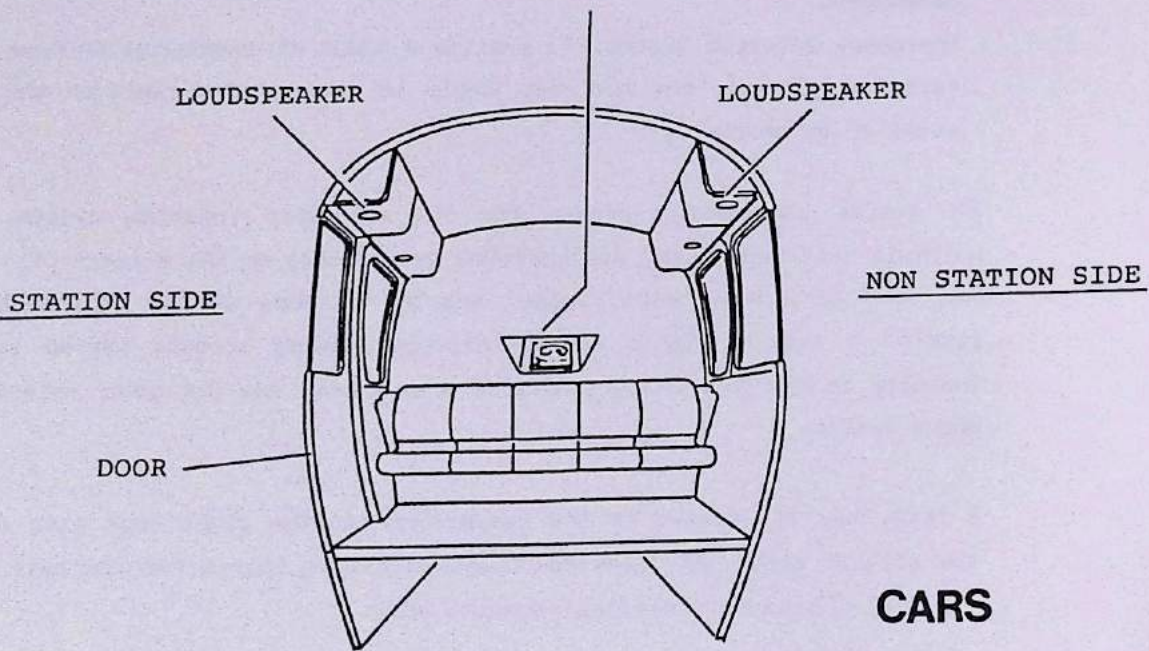

Fig. 1 Audio and Interphone System - General Arrangement
1. Description and OperationA. Description (Fig. 1)